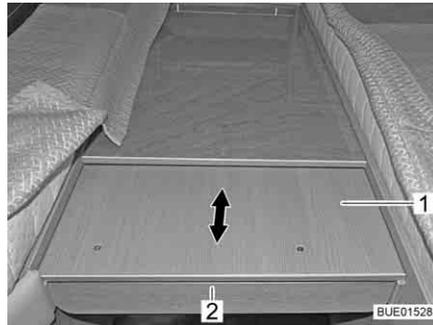

Fig. 118 Pull out bed widening
- Reach under the panel (Fig. 118,2) and pull out the extension (Fig. 118,1) as far as possible.